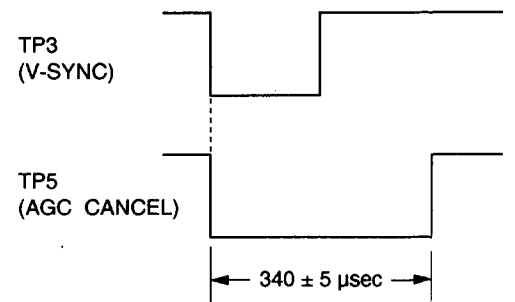

Fig. 5-2-6
- Adjust VR7 so that the AGC Cancel signal phase becomes  $340 \pm 5$   $\mu$ sec. as shown in the Fig. 5-2-6.